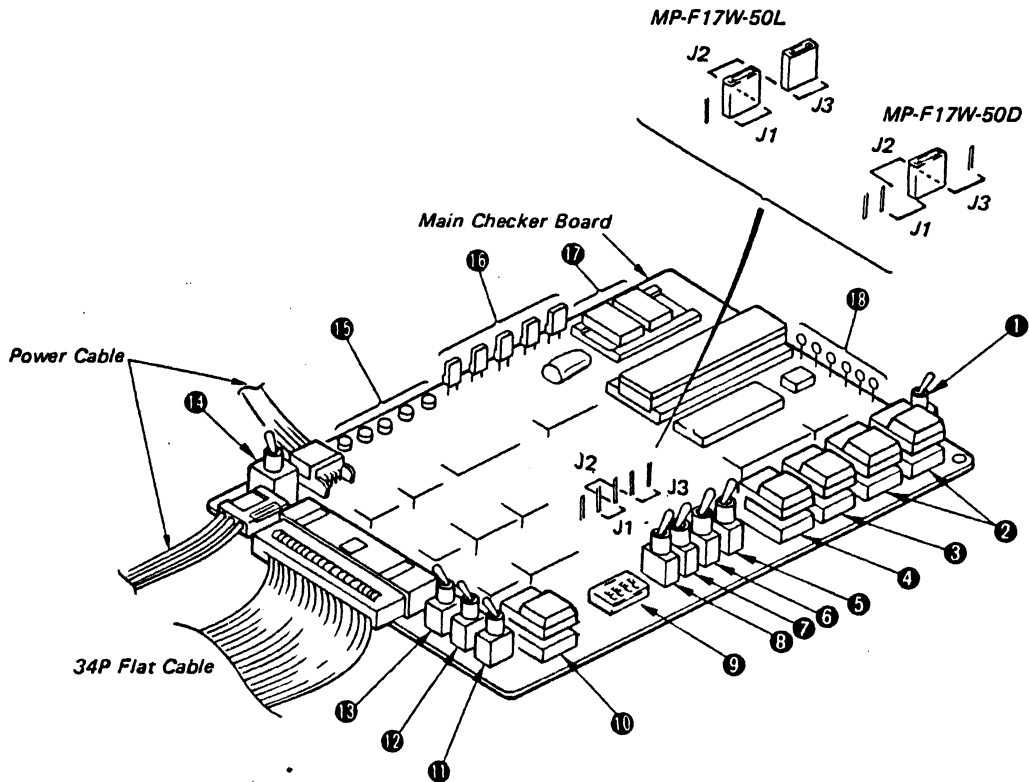

Fig. 2-1 MFD Function Checker II Configuration
(1) MFD Function Checker II configuration (Refer to Fig. 2-1)